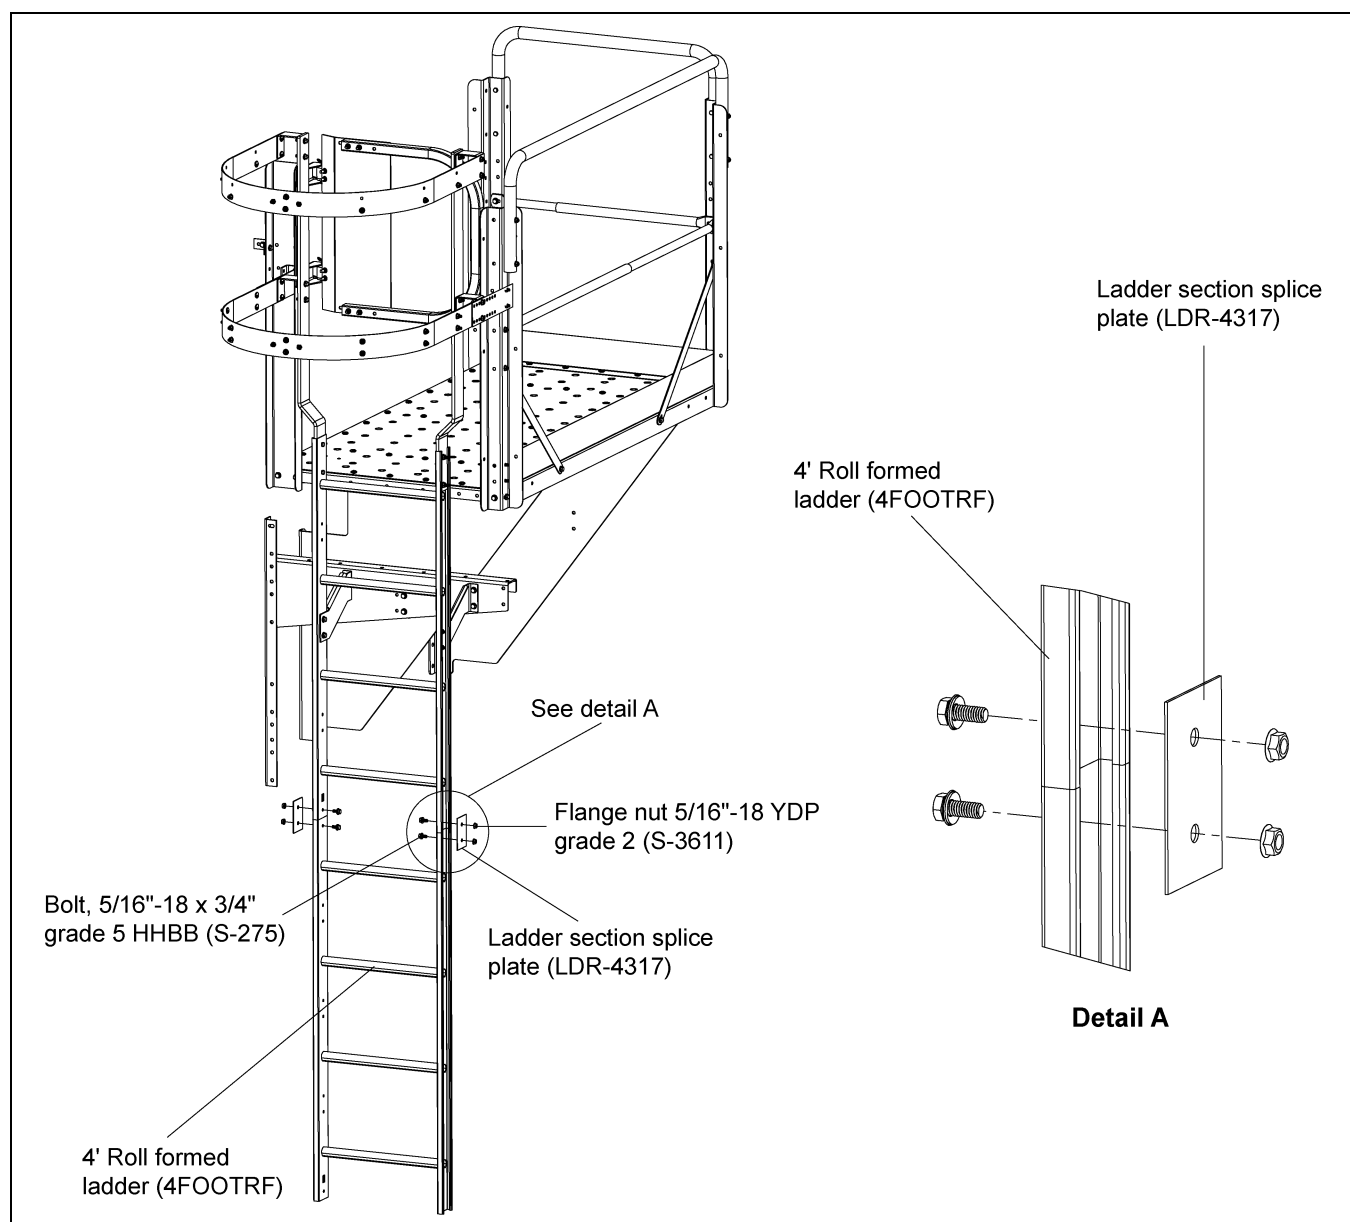

Figure 4V
3. Attach the next ladder section to the upper section using the splice plates and 5/16" hardware. (See Figure 4V.)